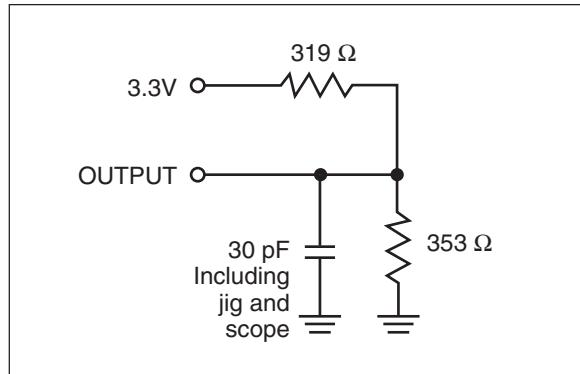

Figure 1a.
Output Load	See Figures 1a and 1b
- Test conditions assume signal transition times of 3 ns or less, timing reference levels of 1.5V, input pulse levels of 0 to 3.0V and output loading specified in Figure 1a.